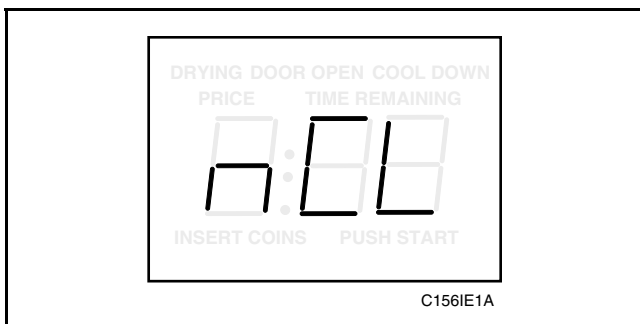

Figure 38
- Press the LOW TEMP (+) pad or the NO HEAT (-) pad to scroll through the programmable options until “nCL” appears in the VFD, *Figure 38*.